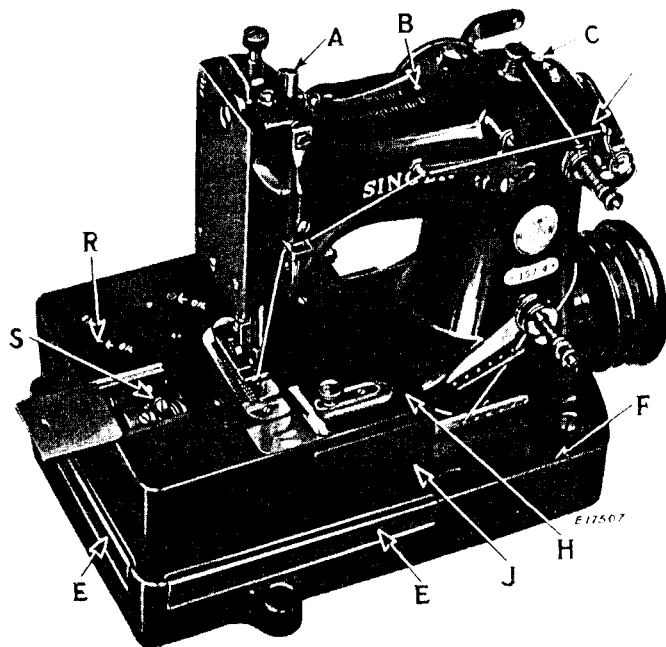
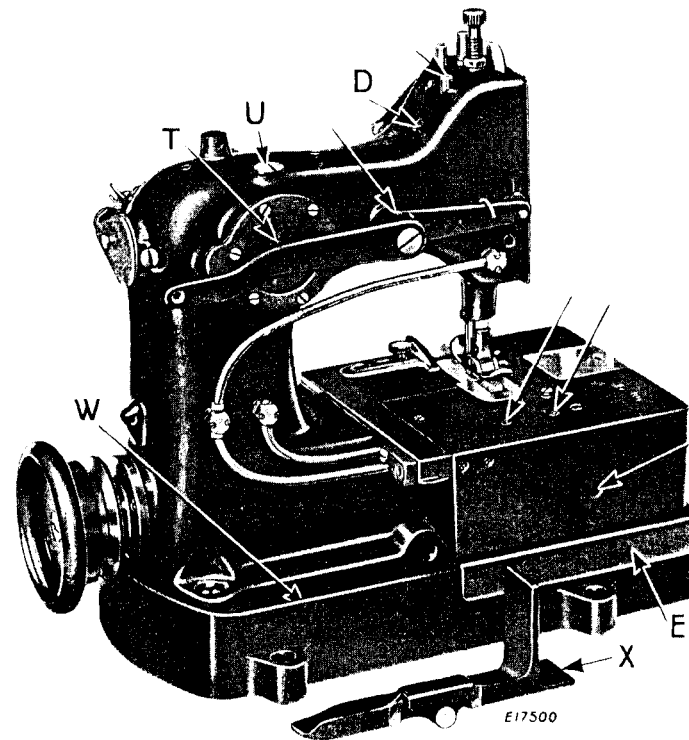
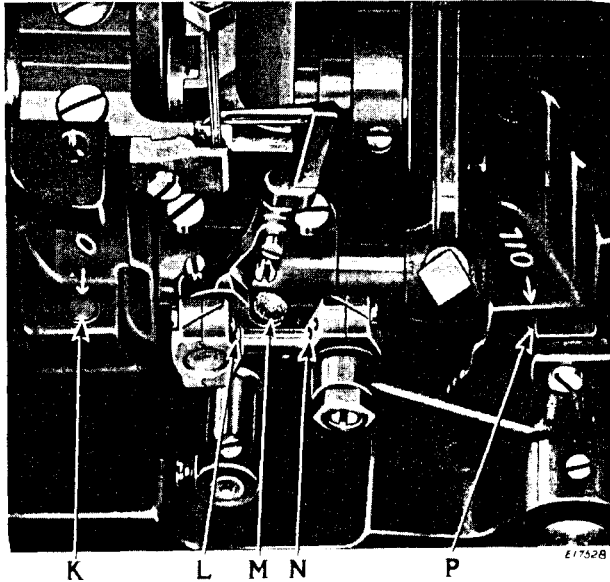

Fig. 2. Oiling Points—Front Side of Machine
Fig. 3. Oiling Points—Rear Side of Machine
Fig. 4. Oiling Points Beneath the Cloth Plate
Pour oil into the machine base at **W**, Fig. 3 until it covers the oil gauge which is located inside the machine base at the front side of the machine. This oil gauge is not shown in these illustrations, but its location is indicated by the arrow **F**, Fig. 2.
To oil the front end of the feed connection, withdraw the slide plate and apply oil to the oil hole **S**, Fig. 2.
Arm side cover **T**, Fig. 3, at the rear side of the machine, is transparent, thus enabling the operator to determine at a glance whether or not the splash system is functioning. Should the oil splash not be visible during operation of the machine, a lack of oil in the reservoir is indicated. In such case, stop the machine immediately and replenish the reservoir with the required quantity of oil.
Apply oil to all oil holes in the cloth plate and machine arm at points indicated in Figs. 1 and 2 by unlettered arrows. Each of these places is marked by the word "oil." Thoroughly saturate the wicks at **A**, **B** and **C**, Fig. 2 and at **D**, Fig. 3. Attached to the underside of the cloth plate at **R**, Fig. 2 is a small reservoir which must be filled through the oil hole **R**.
**CAUTION:** When cleaning beneath the cloth plate, be sure to remove the filter guard **X**, Fig. 3 and carefully clean the filter **W**, Fig. 3. For this purpose use a brush to prevent damage to the filter.
Fig. 2 of the cloth plate open. With these hinged portions open, apply oil to the oiling points shown in Fig. 4, as follows:
Thoroughly saturate the wick at **M**, Fig. 4 and apply oil at **K**, **L**, **N** and **P**, Fig. 4.
**NOTE:** The three guards **E** shown in Figs. 2 and 3 in place in the machine base, are to prevent lint, dirt, etc., from falling into the machine base. When an accumulation of dirt in these guards indicates the necessity for cleaning, the guards are instantly removable for this purpose.